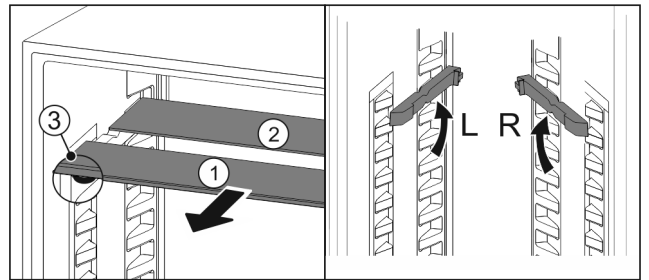

Fig. 97
- ▶ Pull the glass panels out Fig. 97 (1) from the front, one at a time.
- ▷ The glass panel Fig. 97 (1) and trim strip are at the front.
- ▷ The stops Fig. 97 (3) point down.